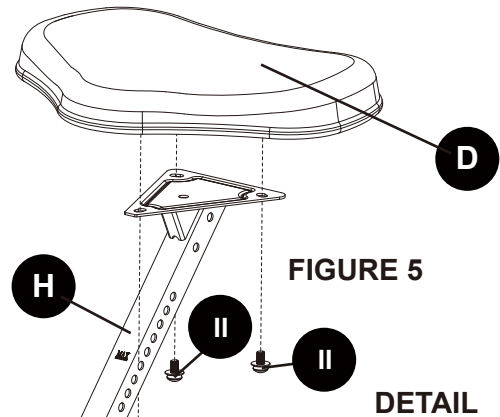

FIGURE 5
Step 5: Assemble the Seat (D) to the Seat Support Tube (H). Using attached Wrench (AA1) tightened the three Oval Head Screws (M8 x 16mm) (II), **Figure 5**